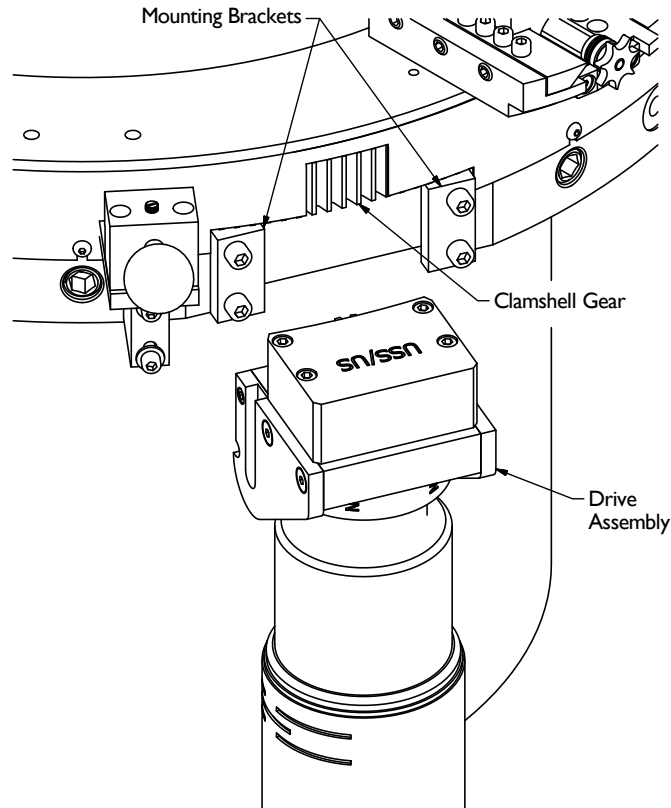

Figure 13 - Install Drive Motor
16. Install the drive assembly onto the clamshell. Slide the drive behind the mounting brackets on the clamshell. Mesh the drive gear with the clamshell gear. Push the drive assembly up until it stops. Secure the drive to the clamshell by tightening four mounting bracket screws. See Figure 13.